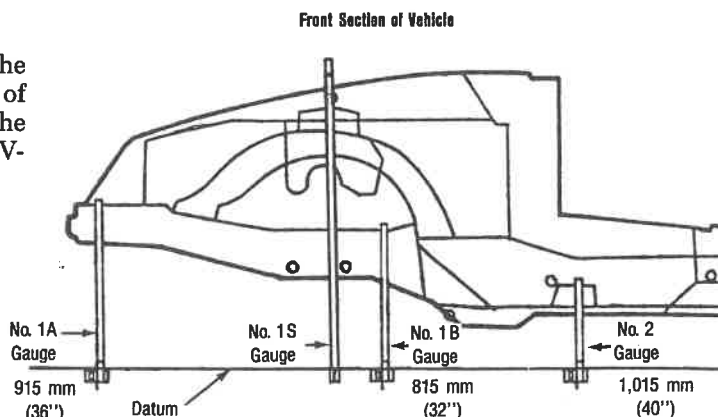

Figure IV-22
- 1) Select 915 mm (36 inch) gauges for installation at the ends of the vehicle; a 815 mm (32 inch) gauge for installation in the suspension area of the vehicle, for example, the front crossmember, suspension mounting members, engine cradle, or at intermediate points along the subrails; and, a Strut Tower/Upper Body Gauge for positioning on strut tower or other upper body locations. Refer to the gauges as they are numbered (see Figures IV-22 and 23):